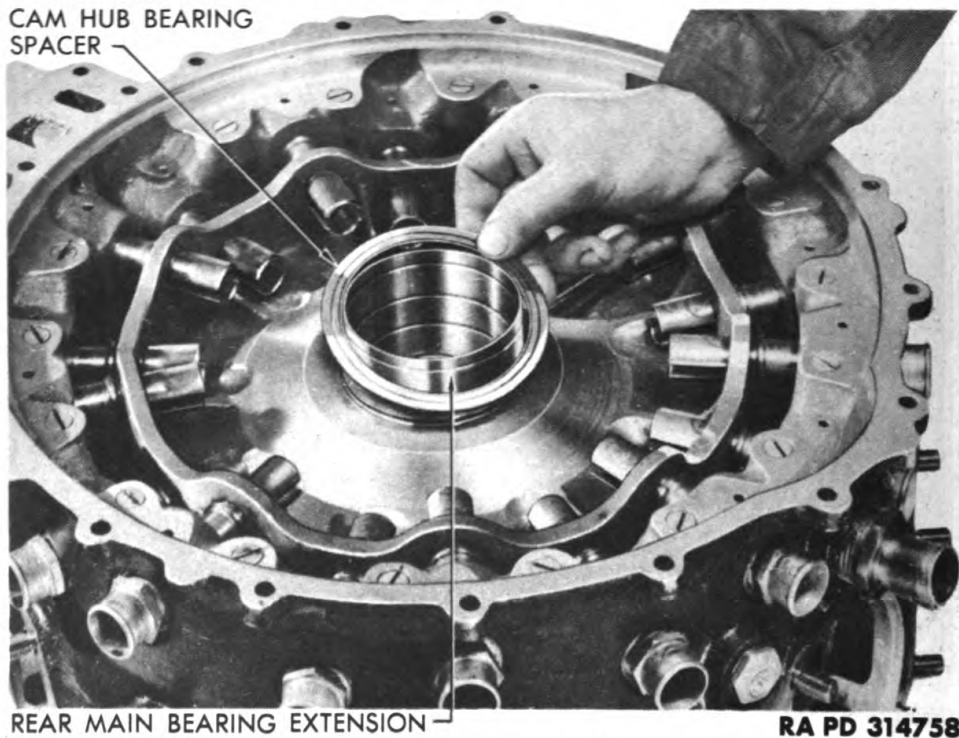
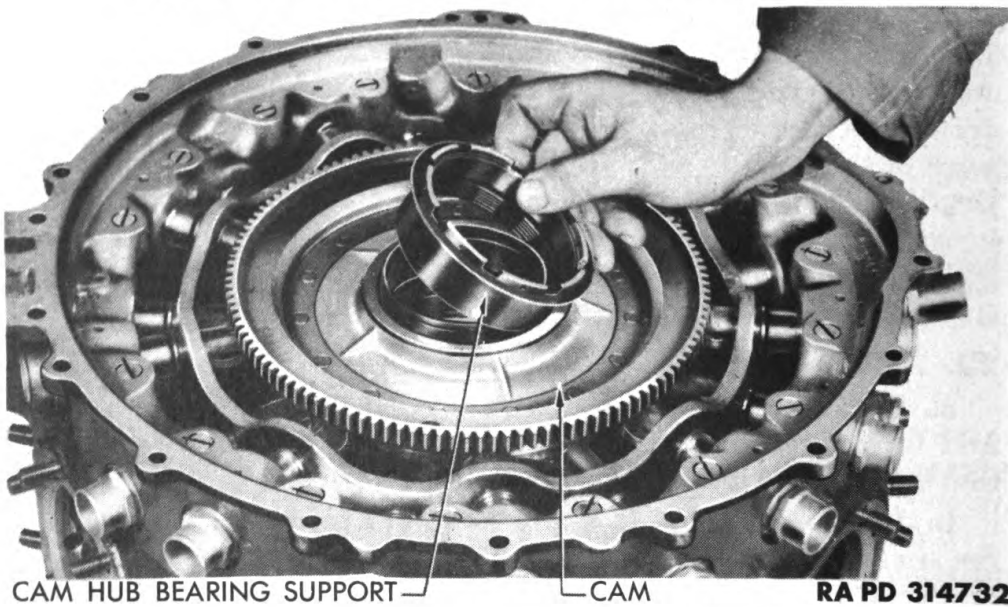
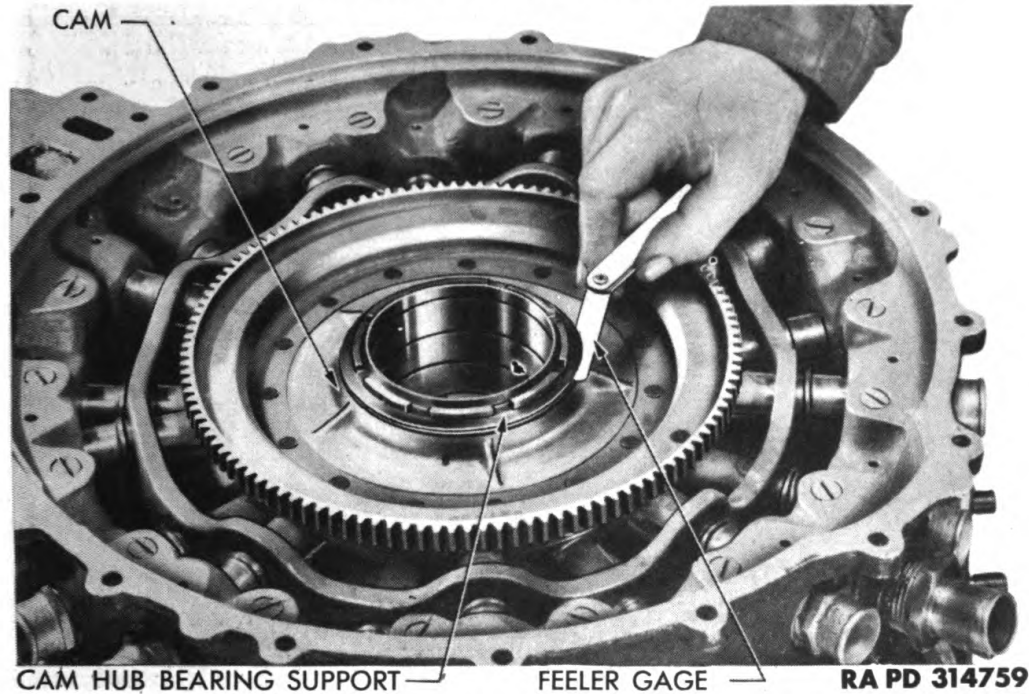

Figure 95 – Installing Cam Hub Bearing Spacer
Figure 96 – Installing Cam Hub Bearing Support
Figure 97 — Measuring End Play of Cam Using Gage 41-G-400
(1) **INSTALL AND CHECK CLEARANCE.** Place spacer for cam hub bearing over main bearing extension (fig. 95). Place cam ring on spacer. Install cam bearing support on rear main bearing extension (fig. 96), and tighten support with wrench. Check the clearance between the cam bearing support and the upper face of the cam bearing with a feeler gage (fig. 97). Clearance should measure between 0.003 and 0.005 inch, loose fit. If clearance exceeds 0.008 inch, replace bearing.
(2) **ADJUST TAPPET ROLLERS.** Check position of cam lobes against tappet rollers. If rollers do not ride squarely on lobes, change the cam hub bearing spacer (fig. 95). If spacer is too thick, grind it to proper thickness. If spacer is too thin, replace with one of proper thickness. Spacer is of proper thickness when tappet rollers ride squarely on cam lobes.